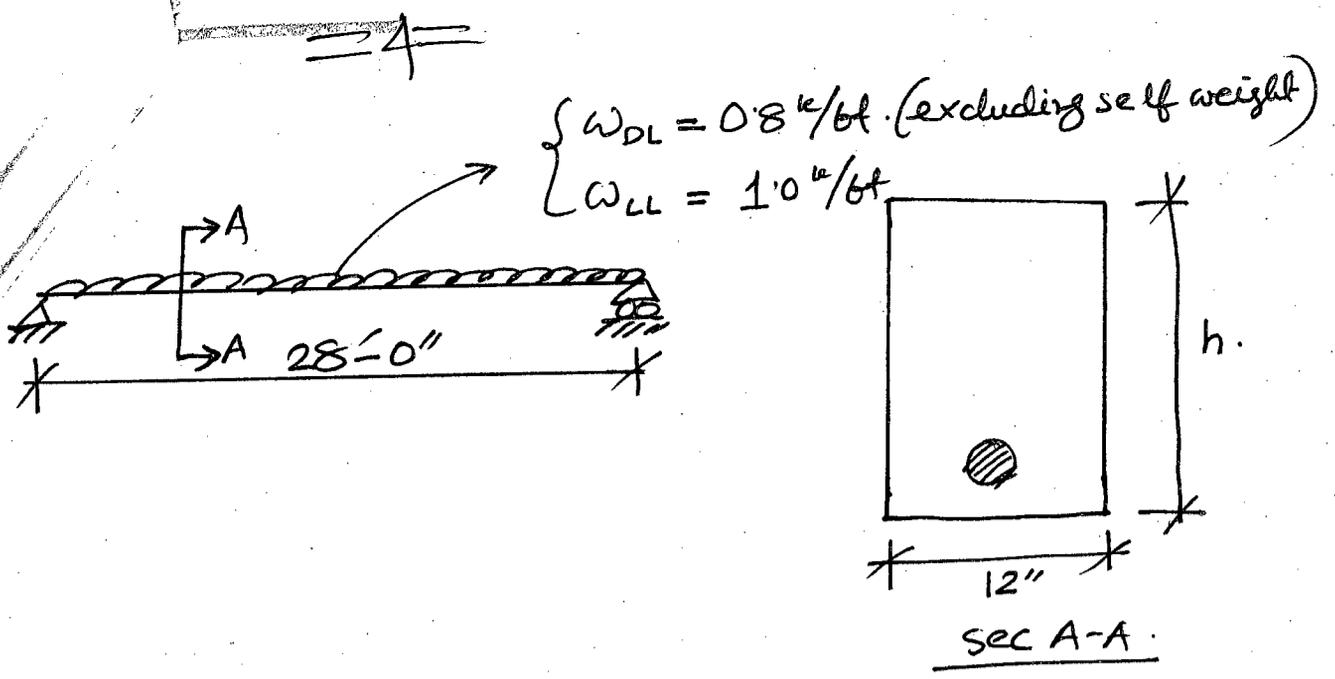

Figure 1
1. (a) Discuss the behavior of reinforced concrete rectangular beam in flexure under increasing load by drawing neat sketches for strain and stress distribution of uncracked, cracked and ultimate condition. (9)
- (b) What are the sources of uncertainties in analysis, design and construction of RC structures? Discuss how safety is ensured against these uncertainties in design. (7)
- (i) Cracking moment. (9)
- (ii) Stresses in concrete and steel caused by a bending moment $M = 90$ kip-ft. (10)
2. (a) A rectangular beam carries a service live load of 1.0 kip/ft and an unfactored superimposed dead load of 0.8 kip/ft in addition to self weight of the beam on a 28 ft simple span as shown in Figure 1. Given, $f'_c = 3$ ksi; $f_y = 40$ ksi; $n = 9$, width of the beam = 12 inch. Design the beam for flexure as a singly reinforced beam. (21)
- (b) Why is cover over rebar important? What are the recommended values of 'cover' as per ACI code? (7)
- (c) Explain the meaning of 'over-reinforced' and 'under reinforced' beam. (7)
3. (a) What is the purpose of providing minimum reinforcement of flexural steel in a beam? Write ACI provisions for minimum reinforcement ratio. (8)
- (b) What is the justification of selecting strength reduction factor ϕ based on net tensile strain, ϵ_t ? Discuss the variation of ϕ with ϵ_t as given in ACI code. (7)
- (c) A beam section is limited to width $b = 12''$ and total depth $h = 24$ in. Calculate the required reinforcement if the beam has to resist a factored moment $M_u = 375$ kip-ft. Assume two layer of tensile reinforcement with $d = 20$ in and $d_t = 21.5$ in. Also assume $d' = 2.5$ in. if compression steel is required. Given $f'_c = 3$ ksi and $f_y = 50$ ksi. (20)